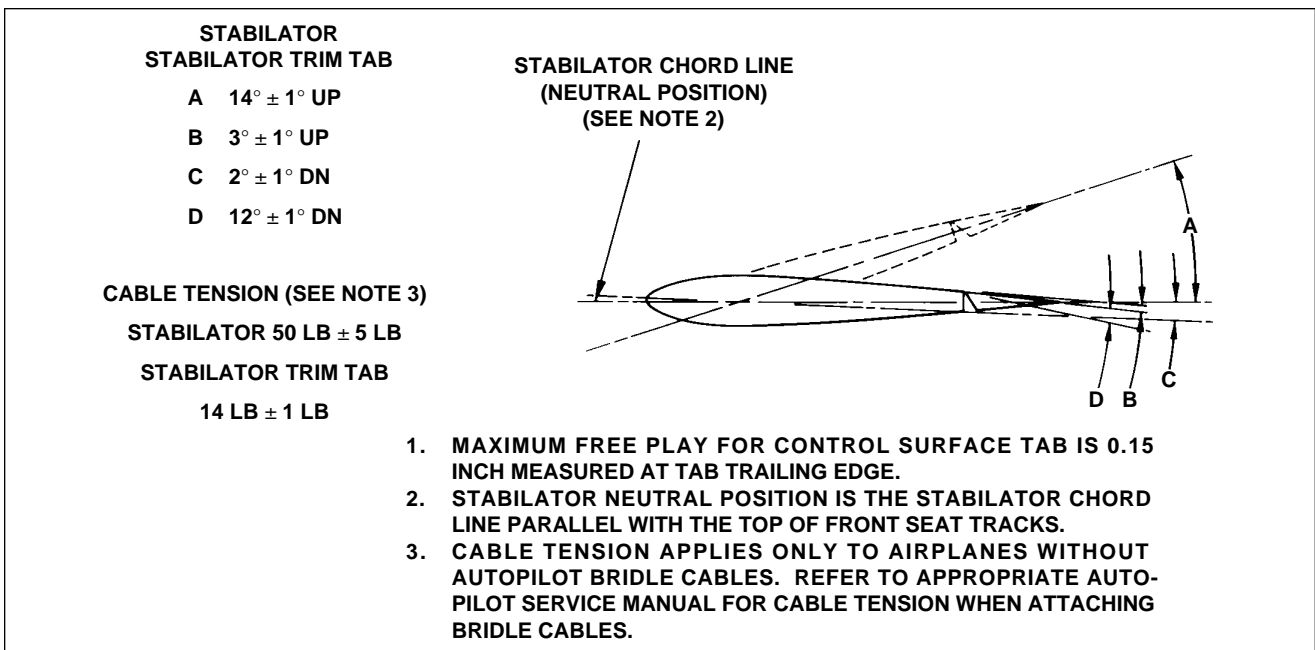

Figure 27-24. Stabilator and Trim Travel Adjustment
- b. Set, on a bubble protractor, the number of degree up travel as given per Figure 27-24, and place it on the rigging tool. Raise stabilator trailing edge and check protractor bubble is centered when the stabilator contacts its stops.
- c. Set, on protractor, the number of degrees down travel per Figure 27-24. Place it on the rigging tool. Lower stabilator trailing edge. Check protractor bubble is centered when the stabilator contacts its stops.
- d. If stabilator travel is incorrect in up or down position, remove tail cone fairing by removing attaching screws. Use rigging tool and bubble protractor to turn the stops at each stabilator hinge stop in or out (refer to Figure 27-24) for correct degree of travel.
- d. Check each control cable or correct tension per Figure 27-24.